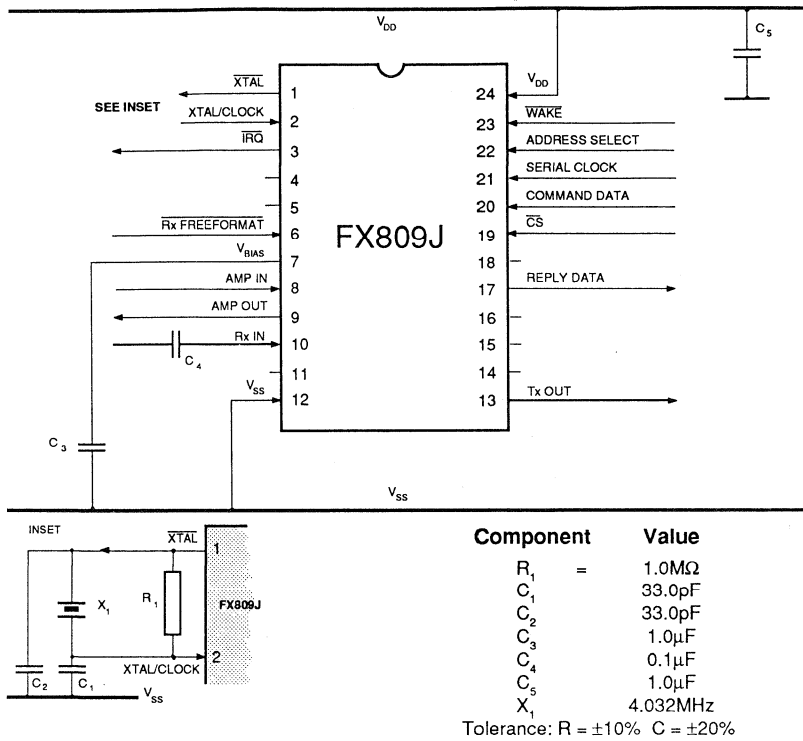

Fig.2 External Components
- Producing an output of 0dB with the Mic. Op-Amp set to 6dB (as shown in Figure 2) and the Modulator Drives set to 0dB.
- Using external components recommended in Figure 2.
1	<p>Xtal: The output of the on-chip clock oscillator. External components are required at this input when a Xtal input is used. See Figure 2, INSET.</p>
2	<p>Xtal/Clock: The input to the on-chip clock oscillator inverter. A Xtal or externally derived clock should be connected here. See Figure 2, INSET.</p>
7	<p>VBIAS: The internal circuitry bias line, held at <math>V_{DD}/2</math> this pin must be decoupled to <math>V_{SS}</math> by capacitor <math>C_3</math>, see Figure 2.</p>
10	<p>Rx In: The 1200 baud, 1200Hz/1800Hz, received FFSK signal input. The input signal to this pin must be a.c. coupled via capacitor <math>C_4</math>, see Figure 2.</p>